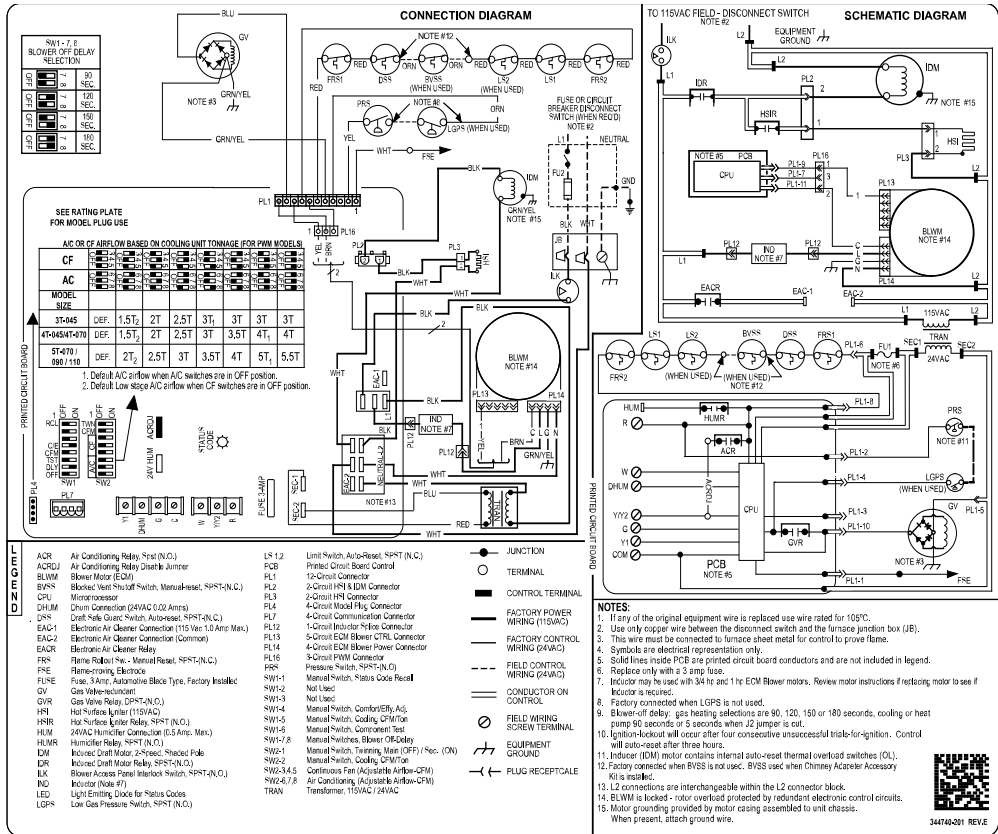
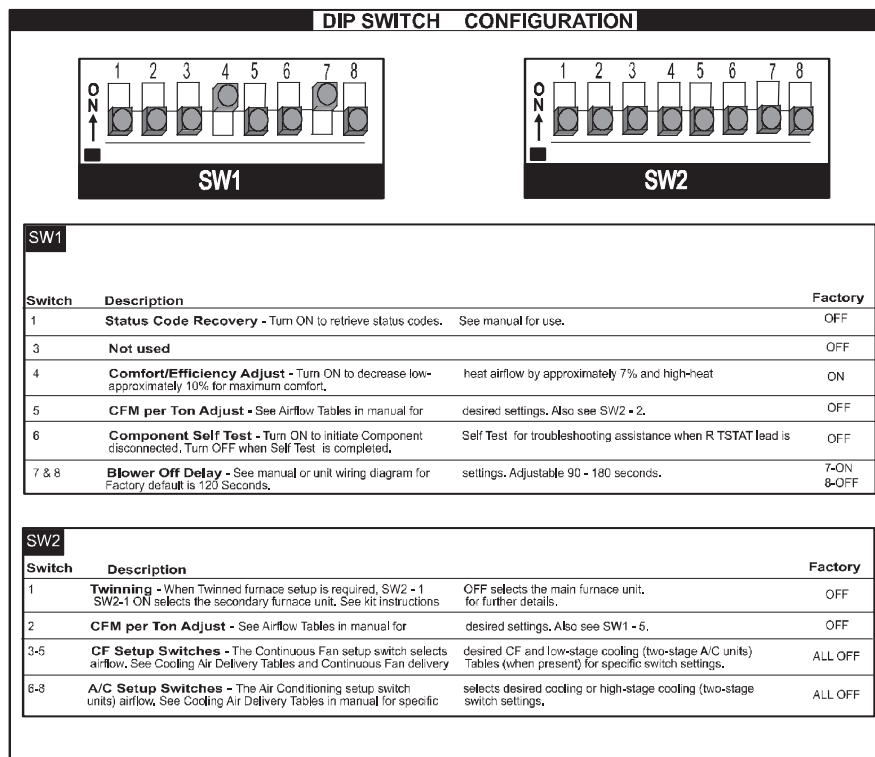

Fig. 44 – Wiring Diagram
Fig. 45 – Furnace Setup Switch Description
6. Setup switch descriptions. The variable speed furnace control has DIP switches to select thermostat staging, blower off delay timings, air flow selection and other operational or service related functions, see Fig. 27 and Fig. 44 and Fig. 45.
- d. Turn Setup DIP switch SW1-6 ON, see Fig. 27 and Fig. 44 and Fig. 45.